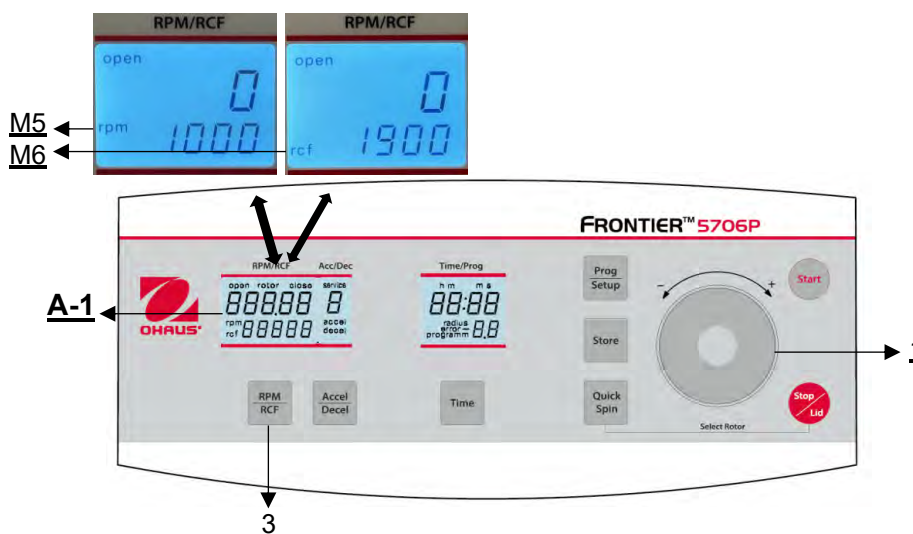

Figure 17
The pre-selection is activated through the key **"RPM | RCF"** (3) (refer to **Figure 17**). By pressing the key once the word **"rpm"** (M5) flashes. By pressing the key twice, the pre-selection of the centrifugal forces can be selected. Then the flashing word **"rcf"** (M6) appears. You can set the desired values with the touch wheel (1). In the display (A-1) the regulated value is shown permanently, before, during and after the run.